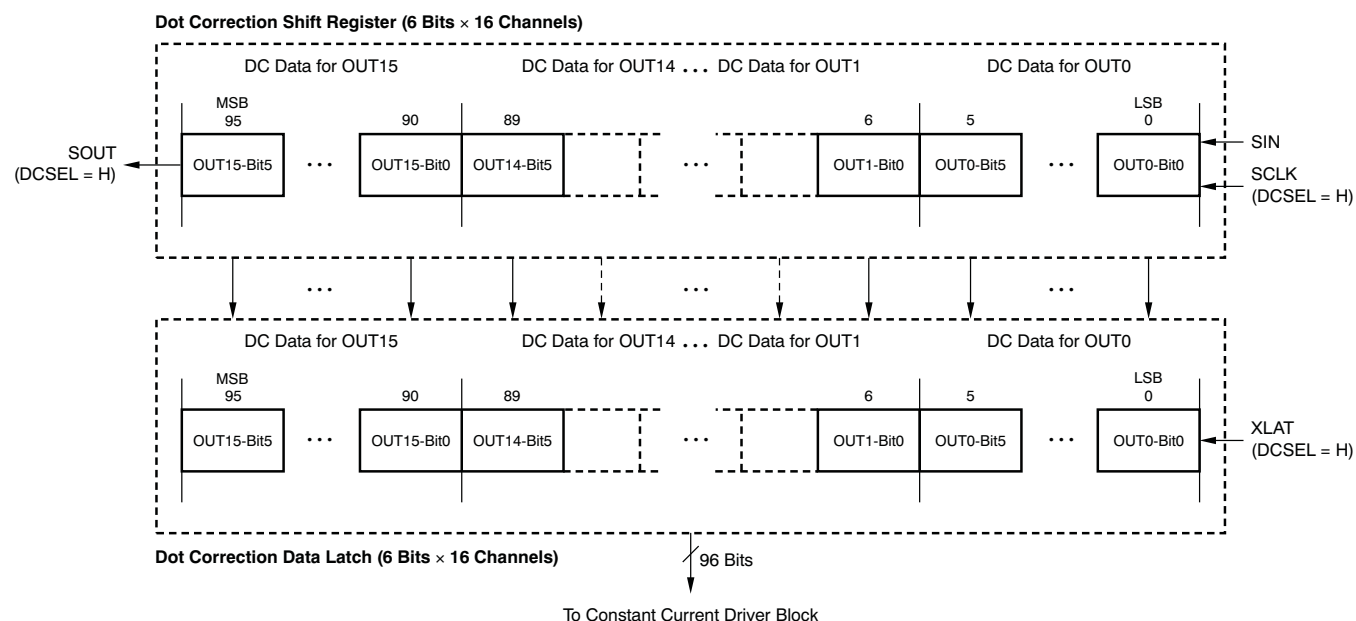

Figure 29. Dot Correction Shift Register and Latch Configuration
The dot correction (DC) shift register and latches are each 96 bits long and are used to individually adjust the constant current value for each constant current driver. Each channel can be adjusted from 0% to 100% of the maximum LED current with 6-bit resolution. Table 2 describes the percentage of maximum current for each dot correction data. Figure 29 shows the shift register and latch configuration for DC data. Figure 15 illustrates the timing for writing data into the DC shift registers and latches. Each LED channel current is dot-corrected by the percentage value that corresponds to the data in the respective DC data latch. DC data present on the SIN pin are clocked, MSB first, into the DC shift register at each rising edge of the SCLK pin when DCSEL is high. Data are latched from the shift register into the DC data latch with a rising edge on the XLAT pin when DCSEL is high. A DCSEL level change is allowed when SCLK is low and 100 ns after the rising edge of XLAT.